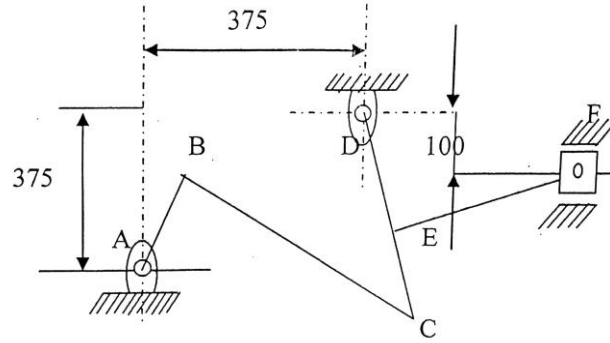

Fig. 1
- Q.2 The mechanism shown in figure 1 has the dimensions of various links as follows 15